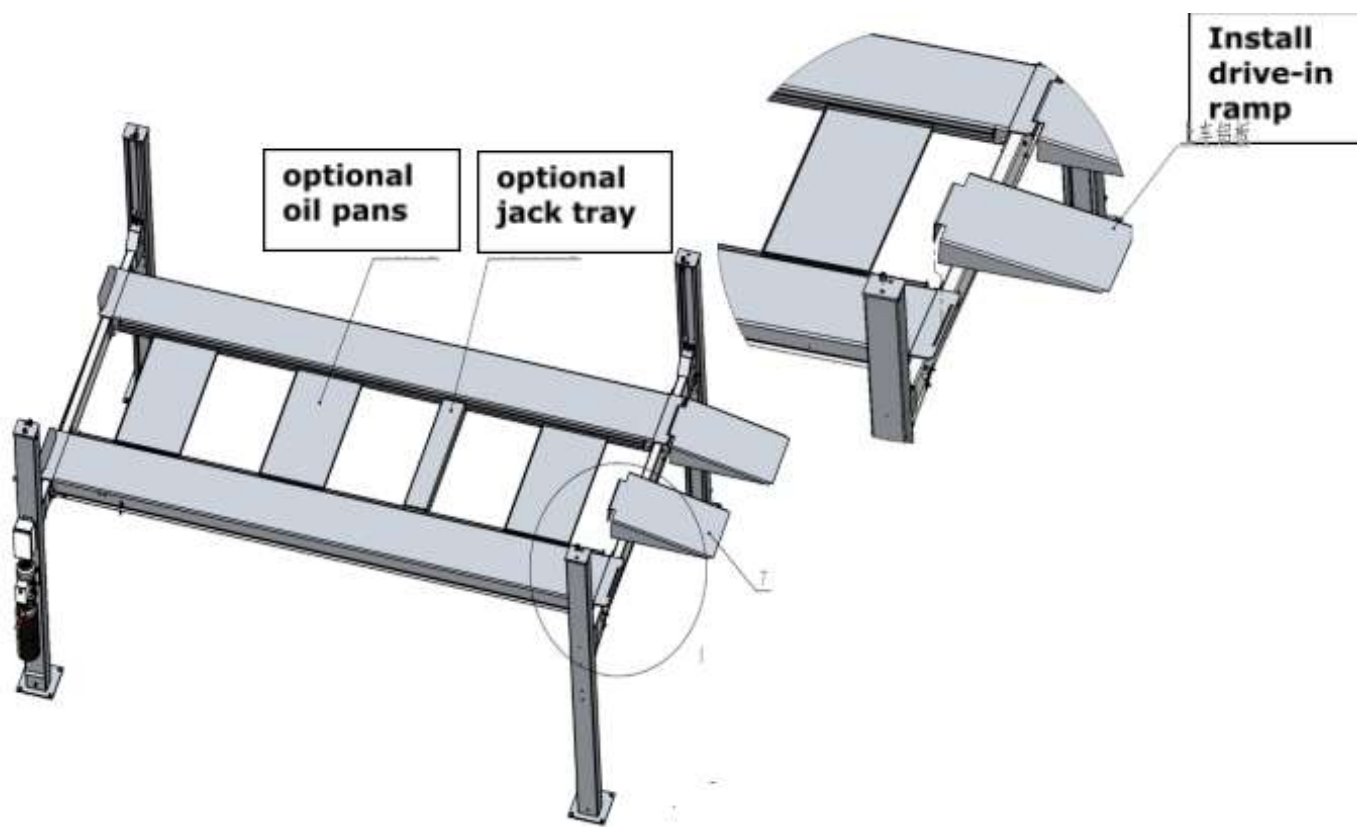

Figure 27
Step 11 - Install drive-in ramp, optional jack tray and optional oil pans (See Fig.27). then attach the drive-in ramp: